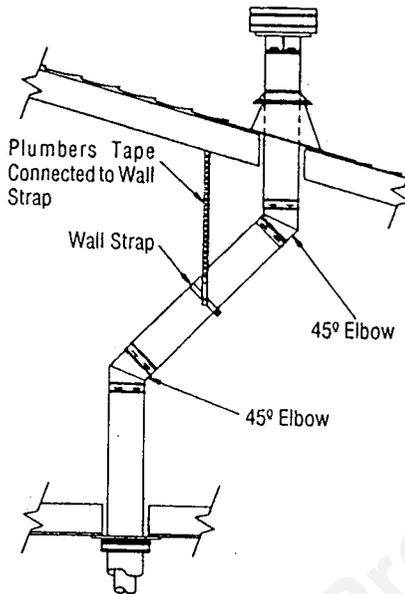

Figure 23
A. Set the gas appliance in its desired location. Drop a plumb bob down from the ceiling to the exit position of the first 90° elbow, and mark the location where the vent will penetrate the ceiling. Drill a small hole at this point. Next, drop a plumb bob from the underside of the roof to the hole previously drilled in the ceiling, and mark the spot where the vent will penetrate the roof. Determine if ceiling joists, roof rafters, or other framing will obstruct the venting system. You may wish to relocate the appliance, or to offset it, as shown in *Figure 23*, to avoid cutting load bearing members.
2. If an offset is necessary in the attic to avoid obstructions, it is important to support the vent pipe every 3 feet, to avoid excessive stress on the Elbows, and possible separation. Wall Straps Dura Vent Part No. 988, are available for this purpose (*Figure 23*).